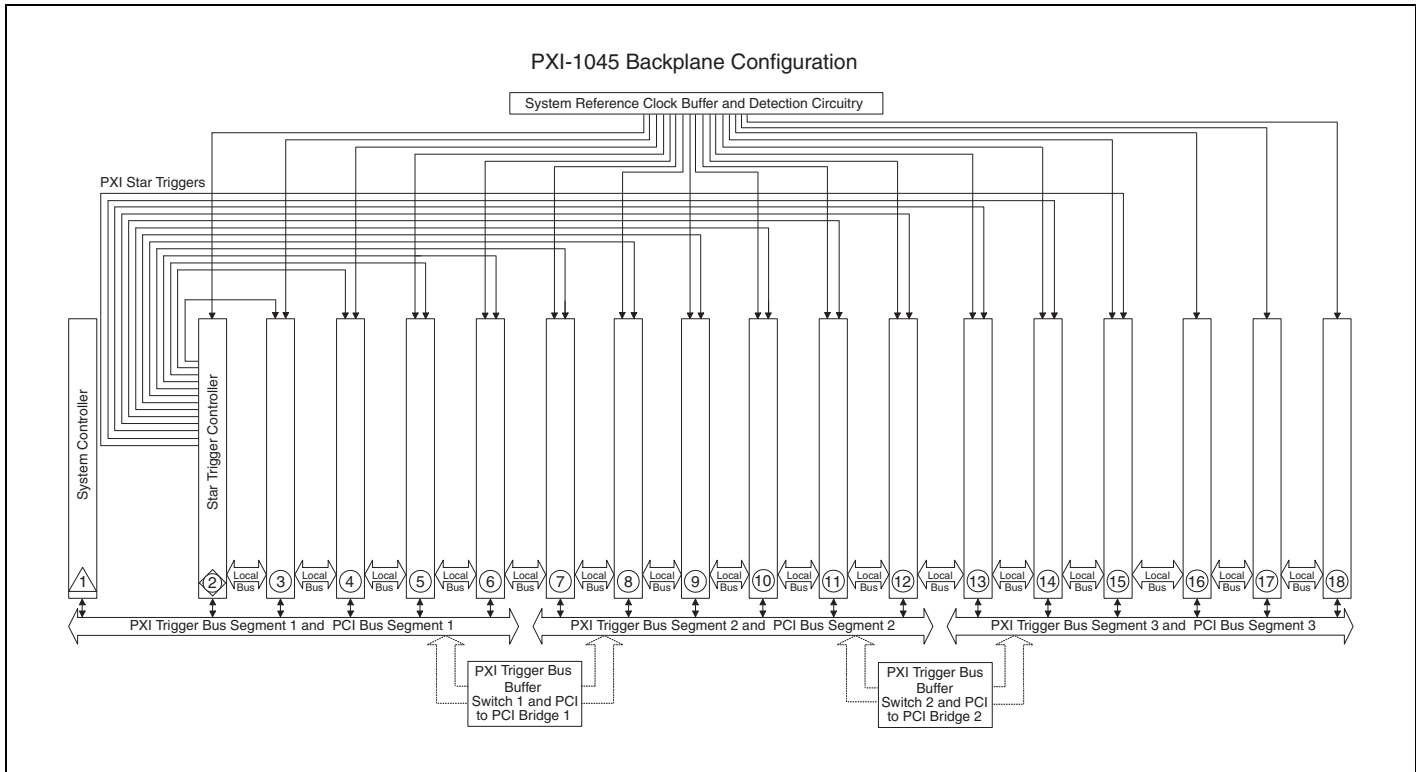

Figure 1-3. PXI CLK_10 and Star Trigger Routing
The star trigger (ST) slot is slot 2. This slot has dedicated equal-length trigger lines between slot 2 and peripheral slots 3 through 15 (refer to Figure 1-3). The PXI Specification defines only 13 star trigger lines; therefore, the last three slots do not receive a star trigger. Slot 2 is intended for modules with ST functionality that can provide individual triggers to all other peripheral modules. However, if you do not require advanced trigger functionality, you can install any standard peripheral module in this slot.
The PXI backplane local bus is a daisy-chained bus that connects each peripheral slot with adjacent peripheral slots to the left and right (refer to Figure 1-3). For example, slot 2's right local bus connects to slot 3's left local bus, and so on.